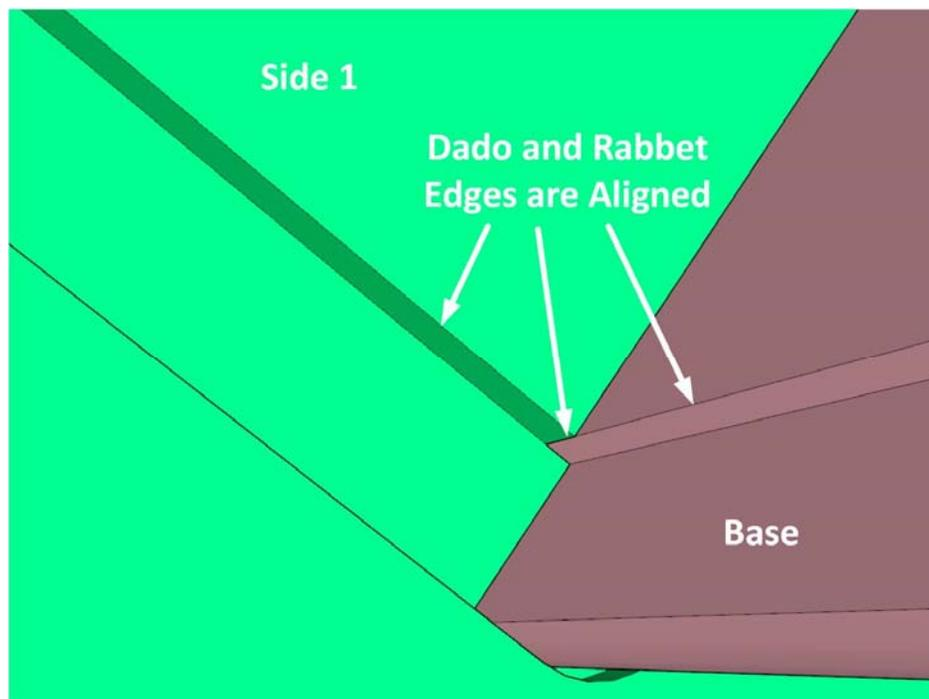

Figure 14. Note How the Edge of the Rabbet Aligns with the Edge of the Dado
2. Verify that when the Base is placed in the dado intended for it, the lip of its rabbet aligns with the edge of the other dado as shown in Figure 14. Use some 180-grid paper to sand off some of the bottom edge of the Base if the edge of the rabbet is higher than the edge of the dado.